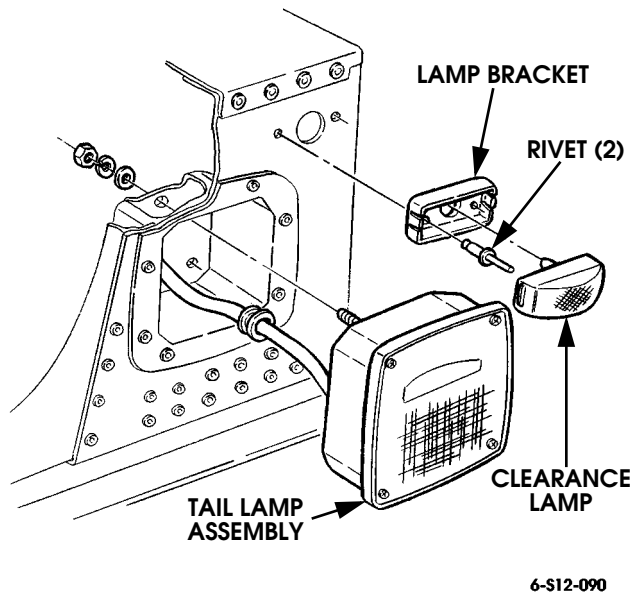

Figure 12-98: Clearance and Tail Lamp
6. Connect harness wires to tail lamps (Figure 12-98).